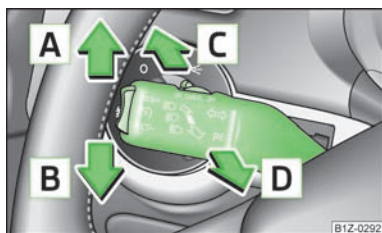

Fig. 28
- > Push the lever upwards  » Fig. 28 or downwards .